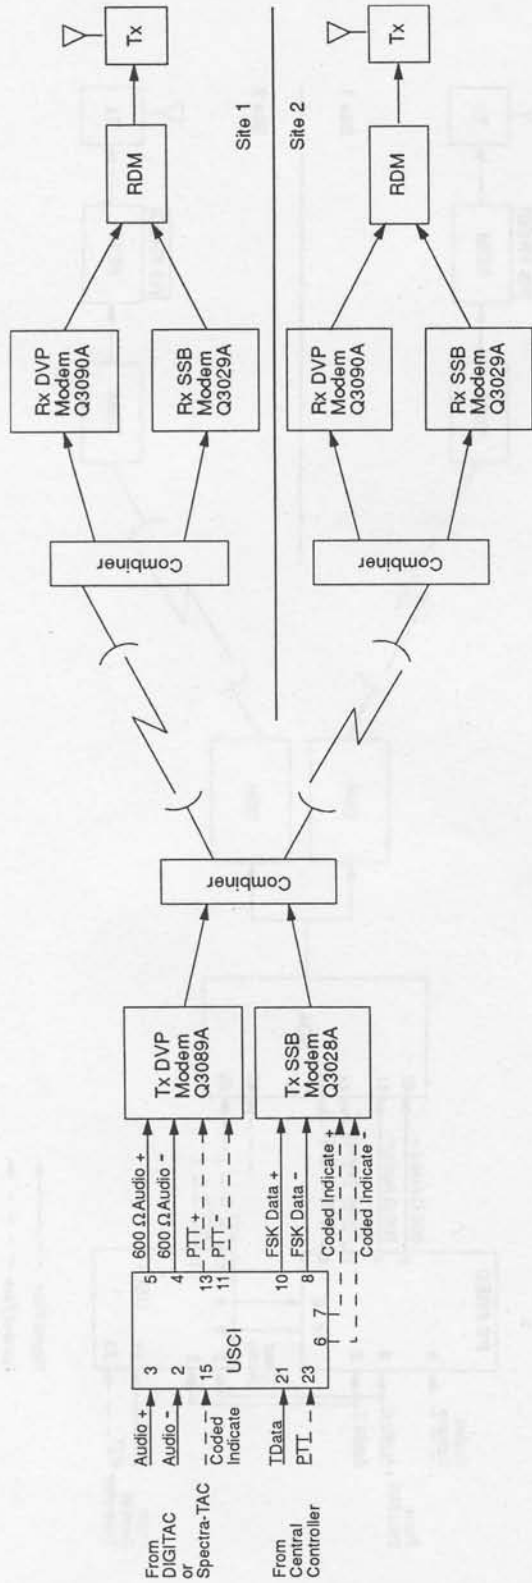

Figure 3. Dual Path Simulcast, Two-Level Encryption
Step 9. Connect the Coded Indicate Out (+) and (-) to the SDA via the punchblock. Refer to Figures 3 through 6.
Step 11. Connect the PTT Out (+) to the switchable M-lead input on the SDA (pin 43) via the punchblock. Refer to Figures 3 through 8.
Step 7. Connect the Coded Indicate Out (+) and (-) to the SDA. Refer to Figures 3 through 6.